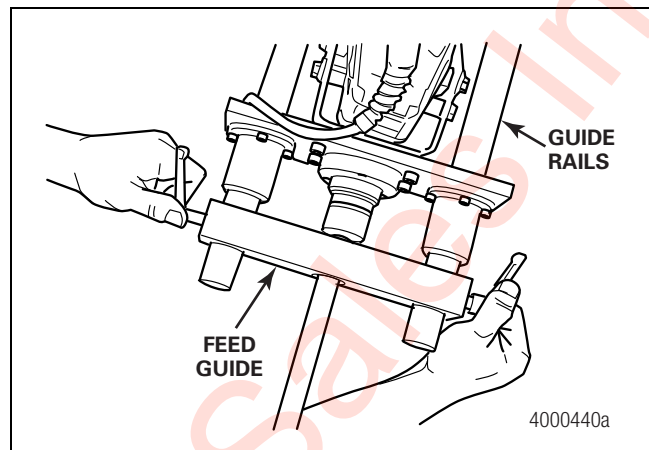

Figure 2.33
8. Tighten the feed guide onto the guide rails. Figure 2.33.